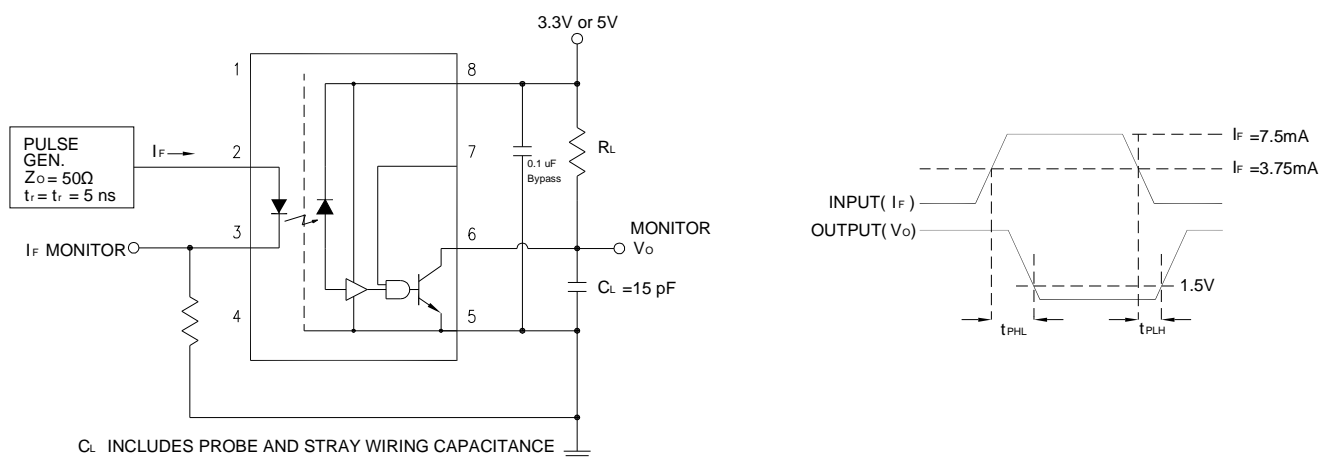

Figure 1: Test Circuit for  $t_{PHL}$  and  $t_{PLH}$
1. A 0.1 $\mu F$  or bigger bypass capacitor for  $V_{CC}$  is needed as shown in Fig.1